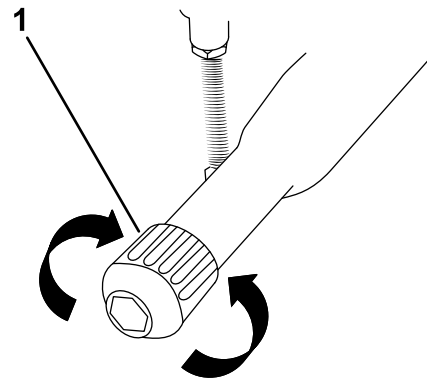

Figure 31
- **Loosening the parking brake:**(Figure 31).
4. Rotate the parking-brake knob **counterclockwise** (Figure 31).
- **Tightening the parking brake:** (Figure 31).
4. Rotate the parking-brake knob **clockwise** (Figure 31).